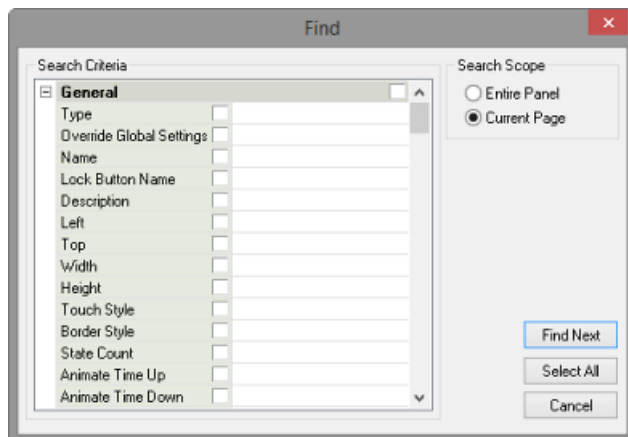

FIG. 347 Find dialog
1. Select **Edit > Find** (or click the toolbar button) to open the *Find* dialog (FIG. 347):